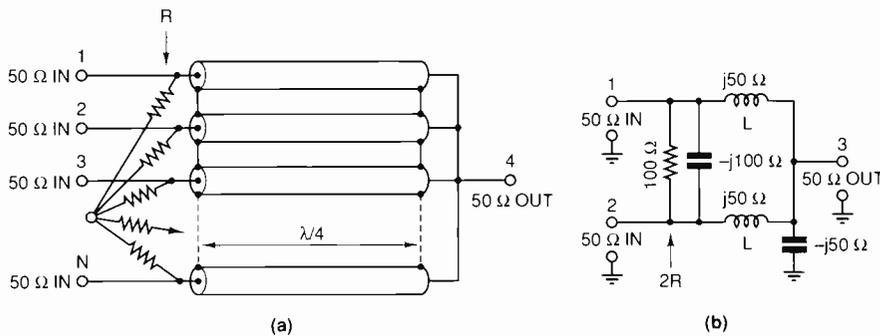

Fig. 6. Wilkinson combiner (a) and its lumped equivalent (b). In practice b) may not be feasible for more than two input ports.
- Wilkinson combiner, consisting of a series of λ/4 transmission lines (Fig. 6). Though not a quadrature coupler like those mentioned above, it is included because all four types are based on the principle of a delay generated by a quarter wavelength transmission line.